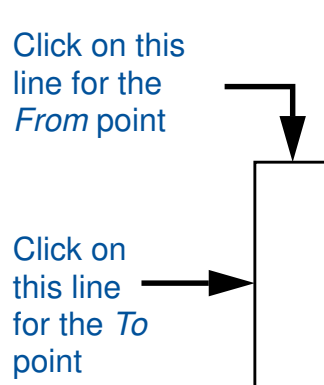

Figure 4-11. Locations for First Chamfer
17. Choose the **[Shapes] Add Line > Chamfer** menu item. In the dialog box, enter Angle: **45**, Distance **0.1**. Choose **clip_both** for the Clip Option. Finally, TAB to the From prompt. Place the cursor on the location shown in Figure 4-11 for the *From* point, and click the Select mouse button. At the To prompt, place the cursor on the location shown in Figure 4-11 for the *To* point, and click the Select mouse button.